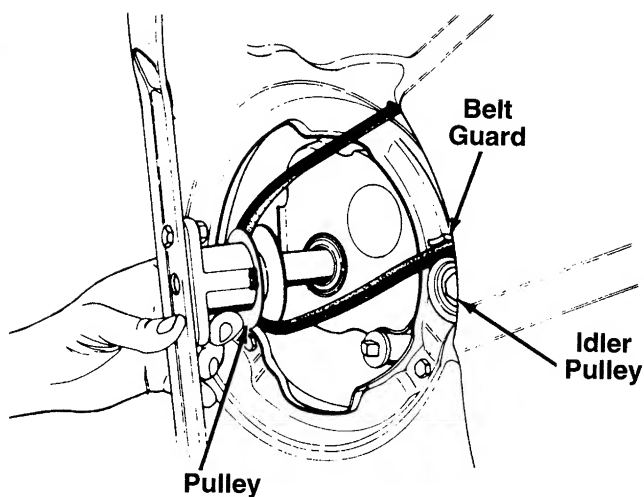

FIGURE 19.
- C. Release the idler pulley so it falls down into position. Slide the belt in between the idler pulley and belt guard on the idler pulley bracket as shown in figure 19.